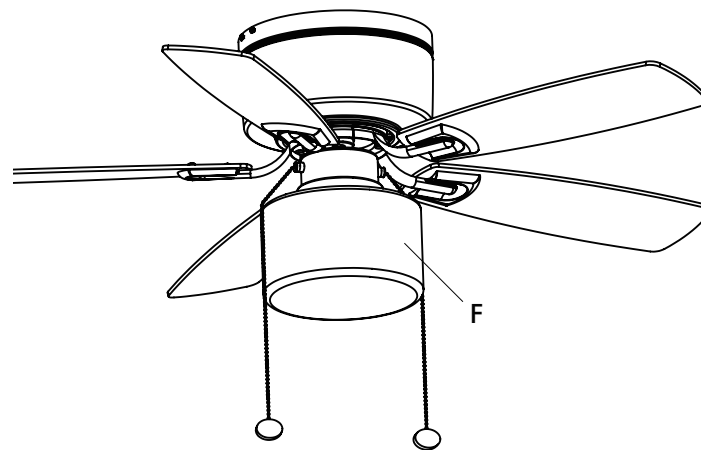

Figure 14
- Install the lamp shade into the lamp-fitter by tightening the thumb screws (Figure 14).